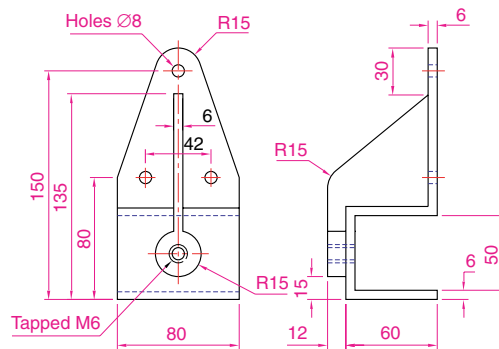

Fig. 13.46 Exercise 6
6. Construct the 3D solid model of a bracket, working to the information given in Fig. 13.46.